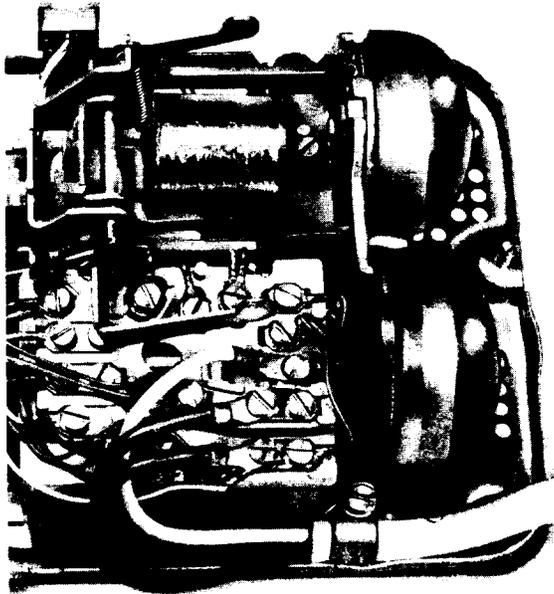

Fig. 6—Securing C Weatherproof Cord in Telephone Set
(e) Cord, Weatherproof, C (used with recreational vehicle or boat for direct connection from telephone set to jack, Fig. 6) can be ordered as follows:
2.07 The C weatherproof cord (Fig. 6) is the same as the B weatherproof cord except that the female plug on the recreational vehicle or boat end is replaced with spade-tipped leads for terminating the cord directly in a 500- or 2500-type telephone set.